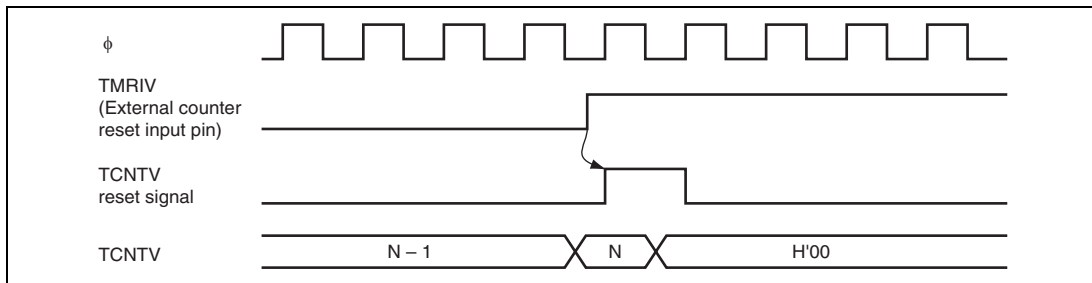

Figure 12.8 Clear Timing by TMRIV Input
6. When CCLR1 or CCLR0 in TCRV0 is 11, TCNTV can be cleared by the rising edge of the input of TMRIV pin. A TMRIV input pulse-width of at least 1.5 system clocks is necessary. Figure 12.8 shows the timing.